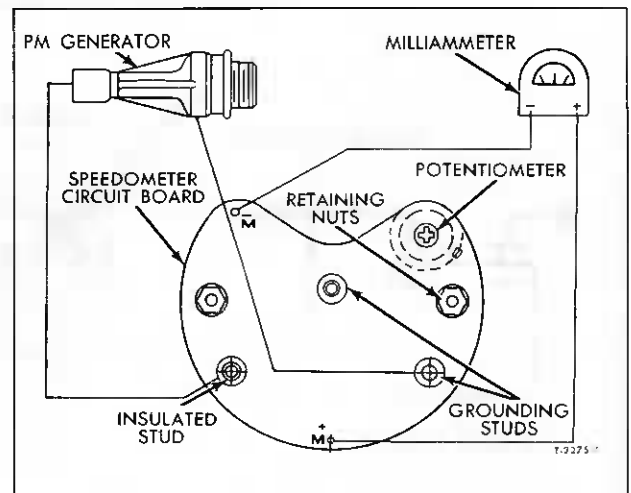

Figure 14—Speedometer System Units and Test Schematic
DISASSEMBLY (Fig. 14)
CIRCUIT PACKAGE (Fig. 14)
3. Make remainder of connections as shown in figure 14. In addition, use a 100 ohm resistor in series with milliammeter during this test.
ASSEMBLY (Fig. 14)